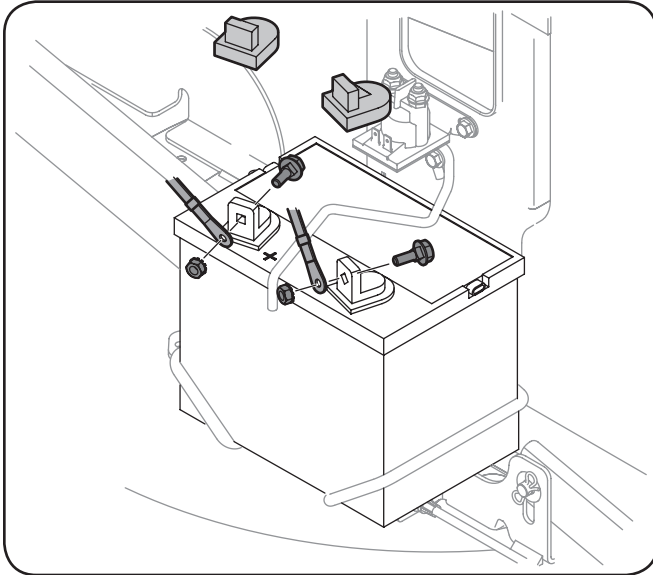

Figure 3-13
- Remove the plastic cover, if present, from the positive battery terminal and attach the red cable to the positive battery terminal (+) with one of the bolts and hex nuts, previously removed, using a $\frac{7}{16}$ inch wrench and socket. See Figure 3-13.
- Remove the plastic cover, if present, from the negative battery terminal and attach the black cable to the negative battery terminal (-) with the remaining bolt and hex nut. See Figure 3-13.